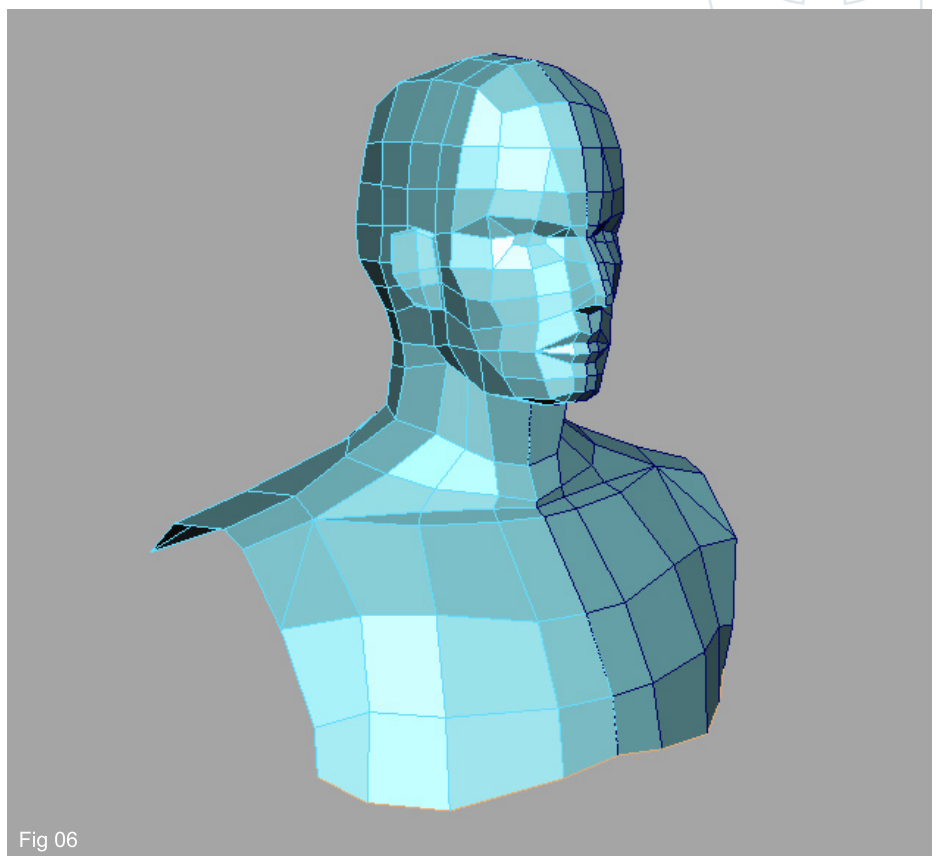

Fig 06
6. It is now time to create the chest. This should be a very easy part especially if you paid attention while arranging the vertices. You just have to select the lower edges and extrude them down twice. Now rearrange the verts until you get something like in "Fig 06".